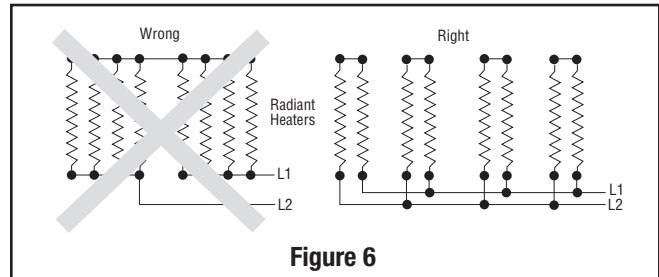

Figure 6
8. **SERIES CONNECTION** of Radiant Heaters of equal volt and watt rating is permitted in all line voltages up to 600 volts. In making such series connections it is necessary to observe the "right" (series-parallel) connection rather than the "wrong" (parallel-series) connection both shown in Figure 6. If heaters are connected according to the "wrong" illustration, failure of any one heater will cause progressive failure of other heaters still operating.